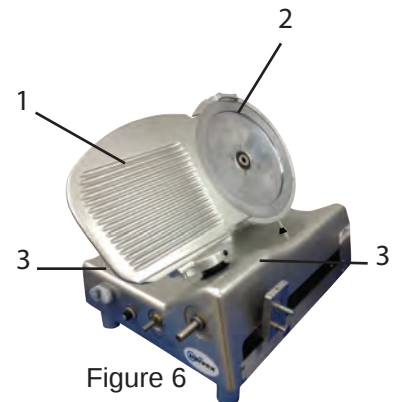
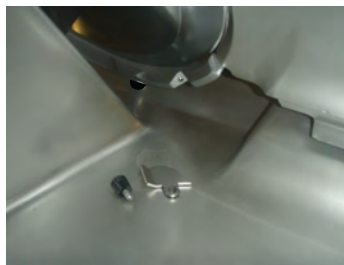
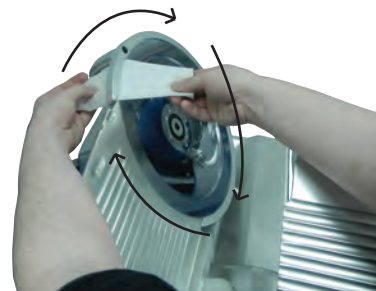

Figure 7
Figure 8
Figure 9
5. Wash the front and rear of the Knife (Figure 6 [2]) and Knife Scraper Figure 7 with warm water and a mild detergent using extreme **CAUTION** around the blade. Carefully remove the Knife Scraper as seen in Figure 8 and clean around the Knife's edge as shown in Figure 9 with warm water and a mild detergent applied to a soft cloth.